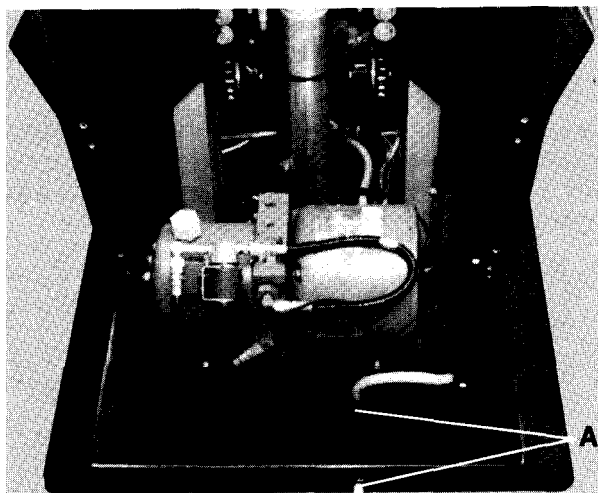

Fig. 33
- 2) Remove Strain Relief Bushings, Item "A", Fig. 33, from cord by grasping bushing with hand pliers (See "Special Tools" on Page 21, squeezing tab on bushing, and pulling bushing out of hole in base.